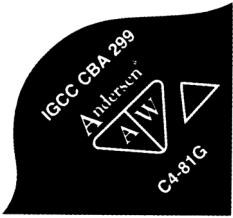

Fig 8. High-altitude shown by triangle.
- 2004–2008* In the 3rd quarter of 2004, logo artwork was changed. Names of glass types on logo changed (for example, High-Performance is now HP Low-E) (figure 8).
Cardinal supplied high altitude glass through 1987. It is indicated by a triangle next to the AW logo (figure 8).